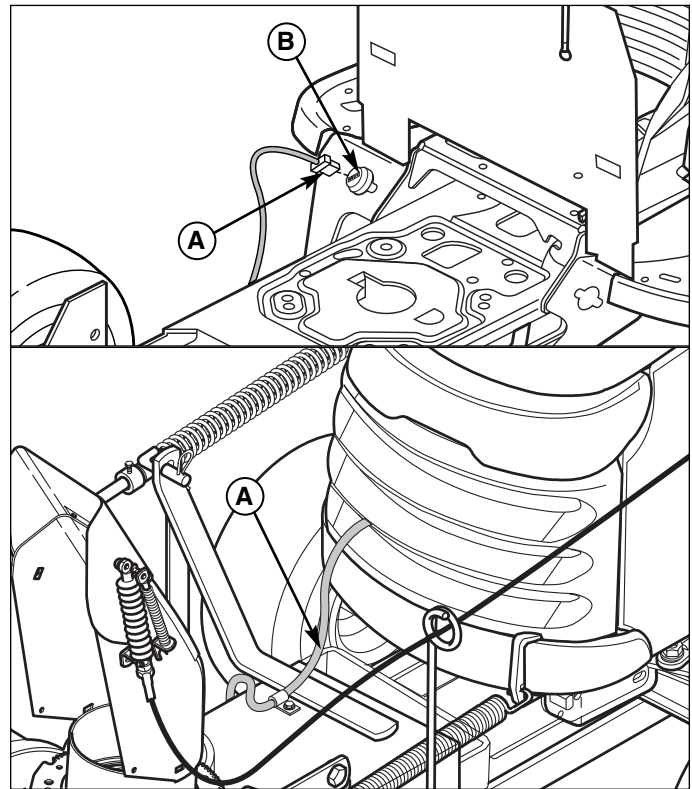

Figure 22. Rotator Motor Electrical Connection
8. Route the wire harness through the bottom opening in the grille and along the frame rail to the accessory plug (B, Figure 22). Connect the chute rotator harness plug (A, Figure 22) to the tractor plug (B). Make certain it will not be caught in the front axle pivot. Secure with the wire clips provided.